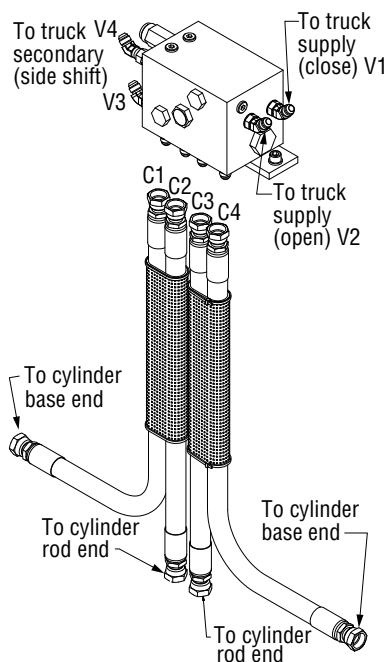

Figure 5-1, Hydraulic Connection
2. Disconnect the hydraulic connection for the attachment positioning at the hydraulic valve, ports V1 and V2 (Figure 5-1). Cap hose ends to prevent contamination and tag for reassembly.
3. Disconnect the side shift connections at ports V3 and V4 (Figure 5-1). Cap hose ends to prevent contamination and tag for reassembly.